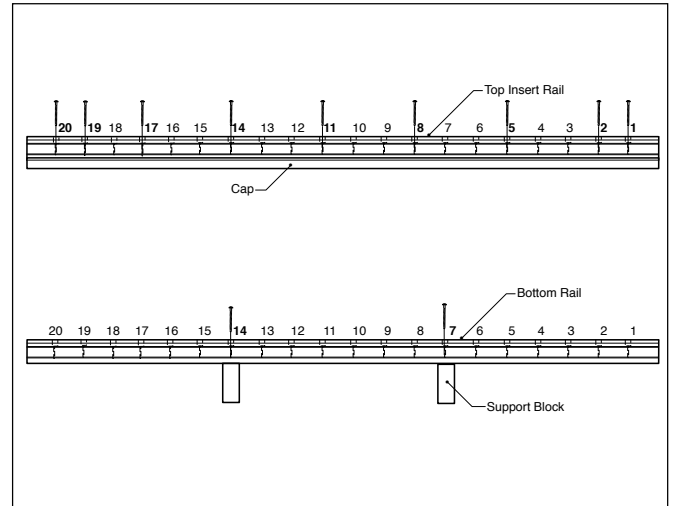
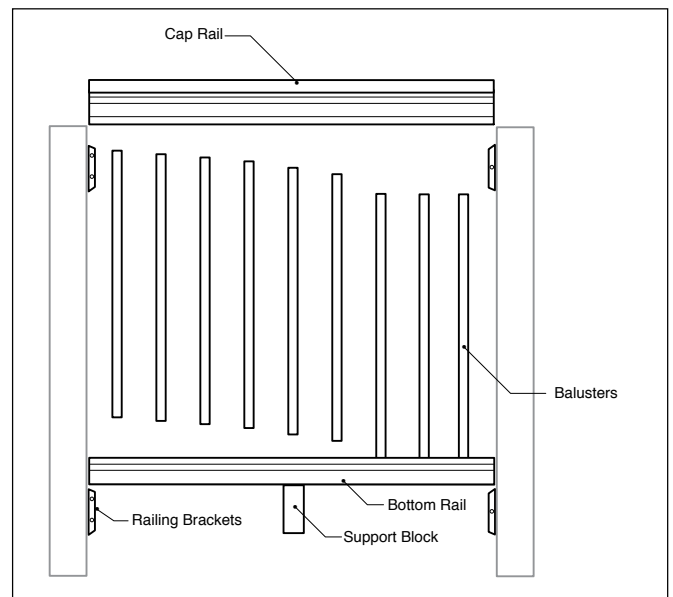

Fig. 1
Fig. 2
**Step 2:** Place the moulded cap rail upside down on a flat surface. Next, place one of the 2x4 rails into the moulded cap rail channel so that the holes are facing up. Starting from either end, fasten the top 2x4 to the cap rail using the (9) 3" screws through holes 1, 2, 5, 8, 11, 14, 17, 19 and 20. If rails are trimmed, predrill any additional holes with a 1/8" drill bit and insert the screw into the next nearest hole. **(Fig. 1)**
**Step 3:** Attach two support blocks on the bottom of the bottom 2x4 rail using 4" screws. The support blocks install under holes 7 and 14. If your rail was trimmed, divide the overall length by three to determine support block spacing and install under the holes closest to this measurement. If the holes have not been predrilled, predrill with a 1/8" drill bit. **(Fig. 1)**
**Step 4:** Attach the (4) 2x4 railing brackets to the posts according to the included instructions.
**Step 5:** Attach the bottom 2x4 rail, with the holes facing up, using the 2x4 railing brackets. Insert the balusters into the predrilled holes. **(Fig. 2)**
**Step 6:** Attach the cap rail by aligning the holes to the baluster at one end of the rail and working your way to the opposite end, ensuring that all of the balusters are secured between the two rails. **(Fig. 2)**